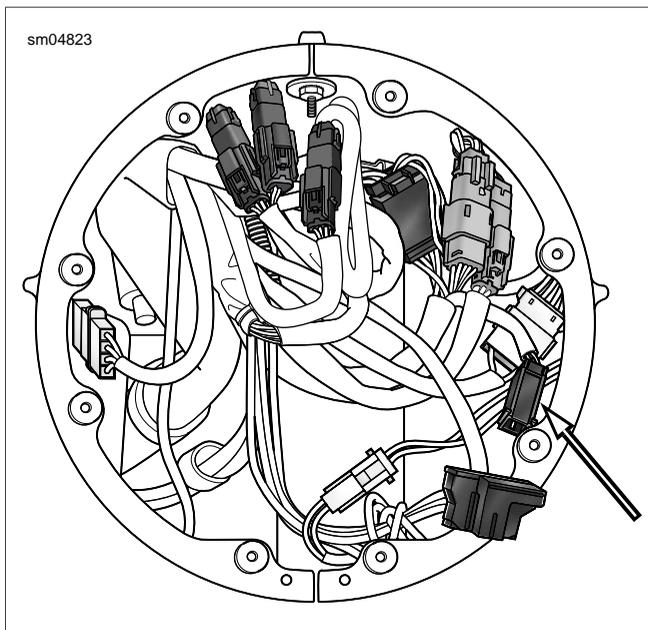

Figure 2-162. Front Fender Tip Lamp Jumper Harness Connector (FLHR/C)
- e. Disconnect front fender tip lamp jumper harness connector [32], 2-place Multilock. See Figure 2-162.